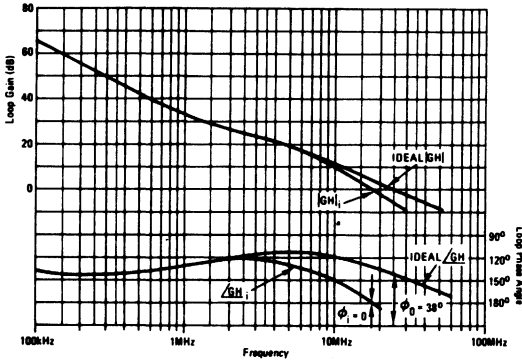

Figure 6
Therefore, the input capacitance creates a pole at  $\omega_p = 1/R_{1f}C_i$  producing additional phase shift about this frequency. This will reduce the phase margin resulting in possible oscillation. For example, if  $R_1 = R_f = 2K$  and  $C_i = 10pF$ , the pole frequency is found to be  $f_p = 16MHz$ . The loop gain plot ( $GH$ )i in Figure 6 reveals a perfect oscillatory condition at 18MHz; i.e.  $|GH| = 0dB$  and  $\phi_i$  (phase margin) = 0. If input capacitance were neglected, our prediction would have erroneously resulted in a phase margin ( $\phi_o$ ) of 38°.
- (1) Plot both gain and phase of the GH function on semi-log paper (see ideal GH curve Figure 6). The following points were tabulated: